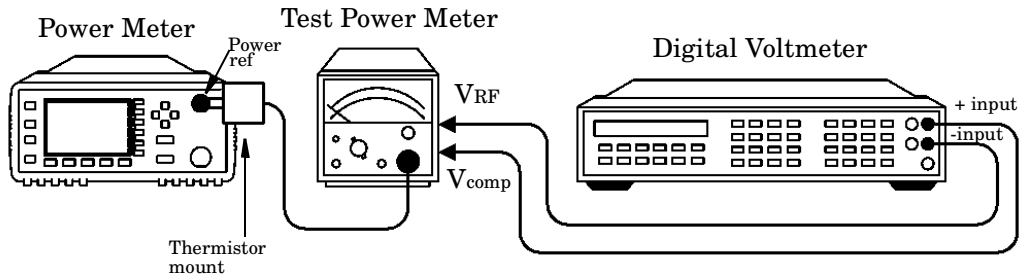

Figure 2-4: Power Reference Level Test Setup
2. Round off the DVM reading to two decimal places and note this value as the internal bridge resistance (R) of the Agilent 432A (approximately 200 Ω).
3. Connect the equipment as shown in Figure 2-4, ensuring that the DVM input leads are isolated from chassis ground.